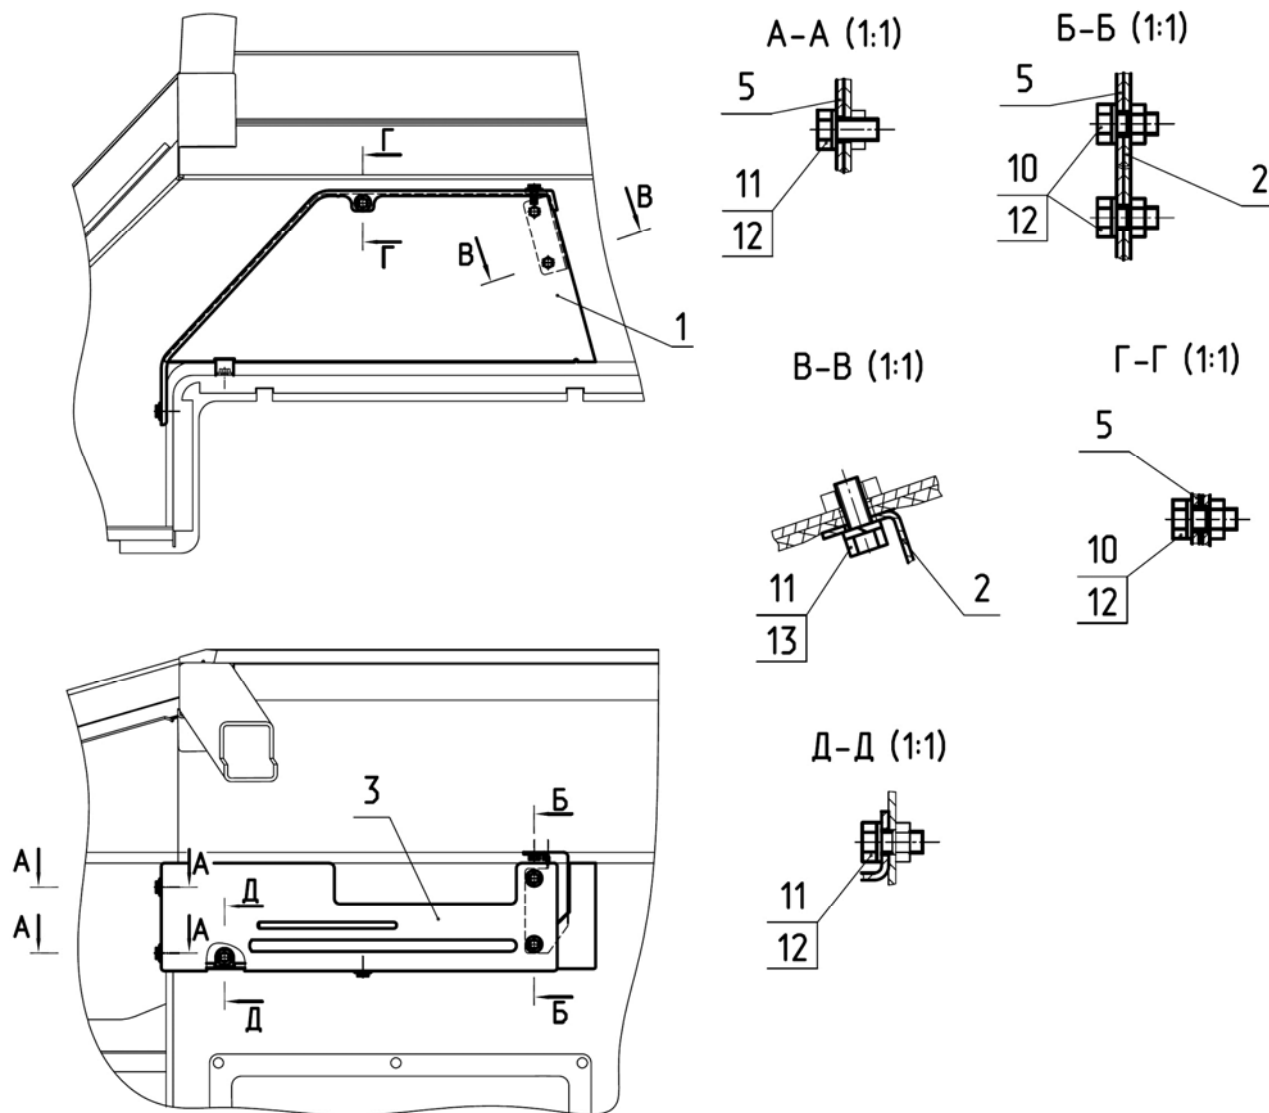

Figure 8.8
a) unscrew bolts (10) and (11), remove cover (3) (figure 8.8);
b) unscrew bolts (11) and remove panel (1);
c) unscrew bolts (11) and remove arm (2).